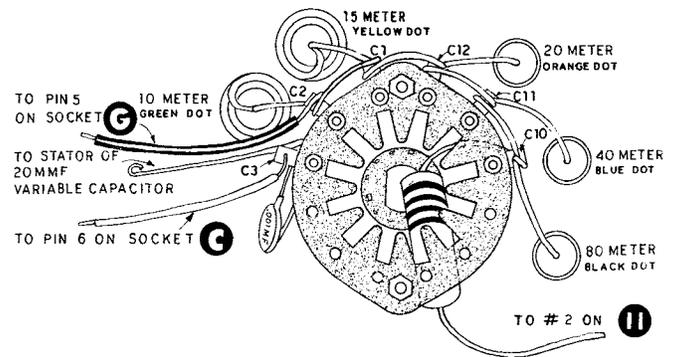

Figure 17
() The free end of the 27 K Ω (red-violet-orange) 1-watt resistor from terminal strip II connects to C10 on the bandswitch (NS). See Figure 17 and 18 and Pictorial 3 for mounting position.
- () Select the 80-meter coil which is marked with a black dot of paint on one end. Trim the leads to 3/4" long. Connect one end to C10 and the other end to B10 on the band-switch. Bend the coil down toward the chassis to isolate it from the other coils which have to be mounted yet. See Figure 17 and 18. When positioned properly, solder both ends.
- () The 40-meter (blue dot) coil mounts with 5/8" leads from C11 to B11 on the bandswitch. Bend the coil down to provide room for the 20-meter coil. Avoid shorting to the other coils connection points. When properly placed according to Figure 17, solder both ends.
- () Cut a piece of #20 bare wire 1" long and form a very small loop at one end. Slip the loop over the end of the stator terminal on the small 20 $\mu\mu\text{f}$ variable tuning capacitor (S-1). See Figure 17 and Pictorial 3. CAUTION: Do not use too much heat or solder to prevent damage to the capacitor. Connect the other end of the wire to B3 on the bandswitch (S-2).
- () Connect the free end of the 47 Ω (yellow-violet-black) 1/2 watt resistor to terminal strip PP, which is mounted on the shield bracket (NS) See Pictorial 3.
- () Trim the leads on a 40 μf 450-volt electrolytic capacitor to 1 1/4" long. Connect the negative (outside casing) lead to #2 on HH (NS). Connect the positive (red end) to pin #1 on socket E (S-5).
- () On the top side of the chassis, mount the 6146 tube in its socket. Trim the leads on the parasitic choke coil to 3/4" long. Connect one end to the plate cap connector (S-1). Mount the cap with the coil, on the 6146 tube. Connect the free end of the parasitic choke to the top of the 2.5 mh RF choke (NS). Do not allow leads to go down through the terminal and touch the choke winding. Refer to Pictorial 4.
- () Trim the leads on a .001 μf 2 kv mica capacitor to 3/4" long. Connect one end to the stator terminal of the 140 $\mu\mu\text{f}$ variable capacitor as shown in Pictorial 4 (NS). Connect the other end to the top of the 2.5 mh RF choke coil (S-2).